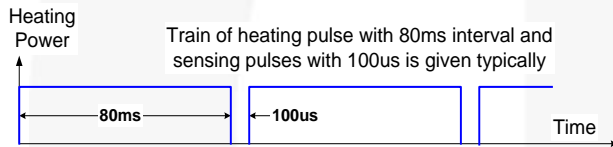
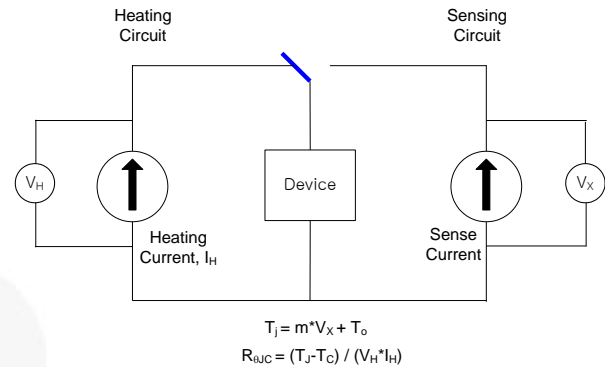

Figure 6. Example of a Power and Sample Pulses Train During the R_{JC} Measurement of a SPM-IGBT
Figure 7. Illustration of the Thermal Resistance Test Method Concept
The thermal resistance test begins by applying a continuous power of known current and voltage to the DUT. The continuous power heats up the DUT to a thermally equilibrated state. While the device is heating, a continuous train of sampling pulses monitors the TSP, i.e., the voltage drop or the same as the junction temperature. The TSP sampling pulse must provide a sense current equal to that used during the calibration procedure for obtaining equation (4). While monitoring the TSP, adjust the applied power so as to insure a sufficient rise in T_J . Adjusting the applied power to achieve a T_J increase of about 100 °C above the reference temperature will generate enough temperature difference to ensure a good measurement resolution. A typical example is shown in Figure 6.
The TSP sampling time must be very short so as not to allow for any appreciable cooling of the junction prior to re-applying power. The power and sensing pulse train shown in Figure 6 has a duty cycle of 99.9%, which for all practical purposes is considered to be continuous power. Obviously, most of the total power is applied to the DUT in Figure 7.